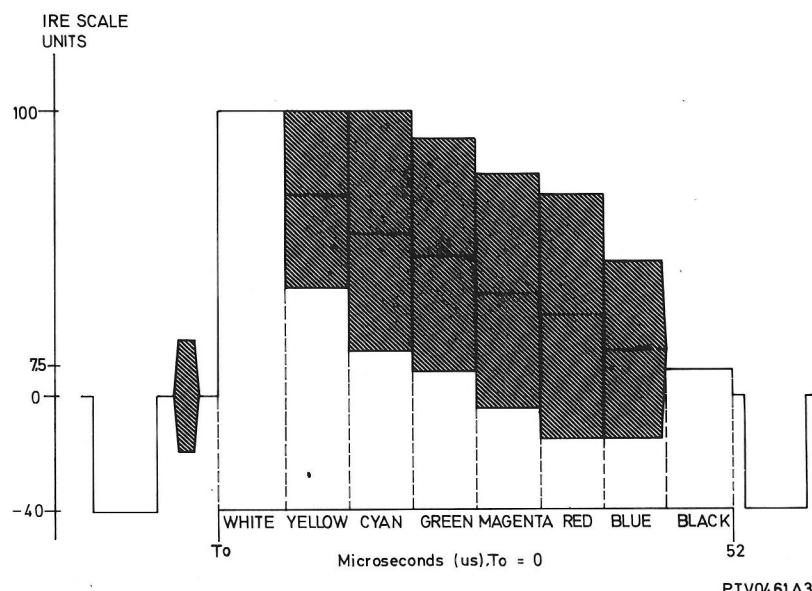

Fig. 3-11 FCC color bar
#### 6. (H) FCC color bar (See also fig. 3-11)